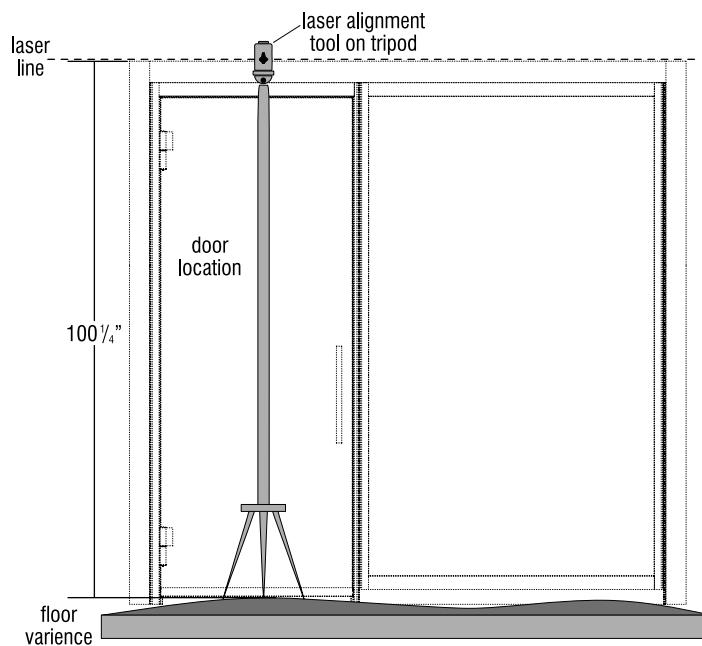

Figure 3
4. To accurately determine and cut the 2-way corner post heights to accommodate for floor height variances, a laser alignment tool must be set up on a tripod. Per KI quote drawing (or shop print if modified product), place the laser alignment tripod into the doorway of the super structure being assembled, then set the laser line at  $100\frac{1}{4}$ " from the floor. (Figure 3).